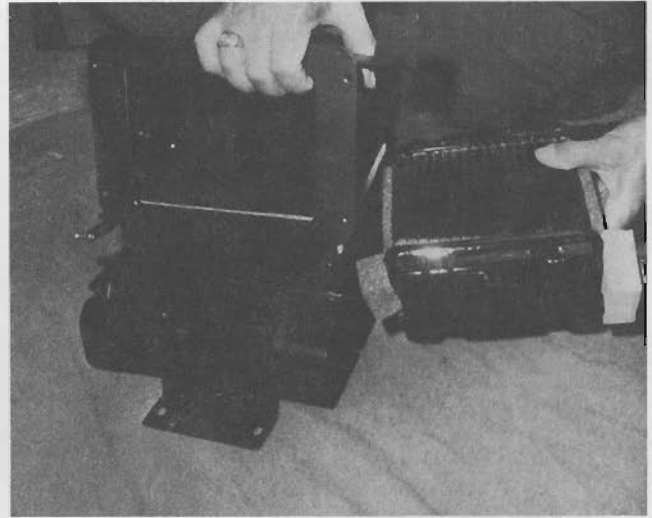

*Figure III-12. Removing Heater End Plate*
5. Remove the five attaching screws from the heater box end plate assembly and work the end plate away from the heater body. (As shown in Figure III-12.)